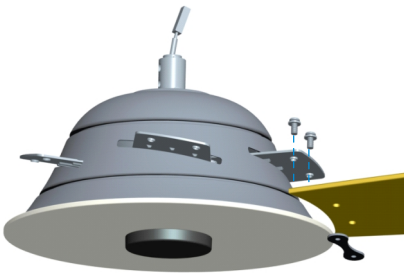

Fig 1.1
1.1 Moving clockwise blade screws, align each blade with the grommets on the motor as shown in Fig 1.1.